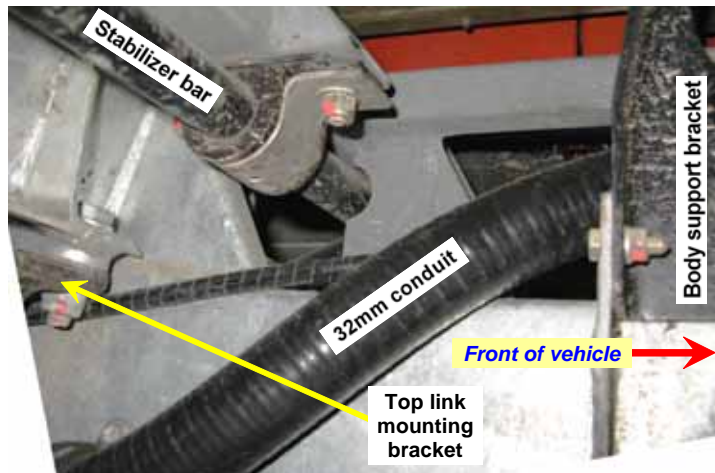

Figure 20 Conduit Routing at the Crossover from Inside to Top of Chassis Rail
- (2) Lay the heavy duty main battery-to-starter motor cable harness (Table 1, Item 49) beneath the vehicle along the general line of the left-hand chassis rail with the gland (battery box) end of the conduit towards the rear of the vehicle.
- (3) Starting from behind the rear axle, route the front of the harness forward so that it lies along the inside of the chassis rail to a point just forward of the left-hand top link mounting bracket, and then pass it upwards and onto the top of the chassis rail between the rear stabiliser bar and the body support bracket as shown in Figure 20.